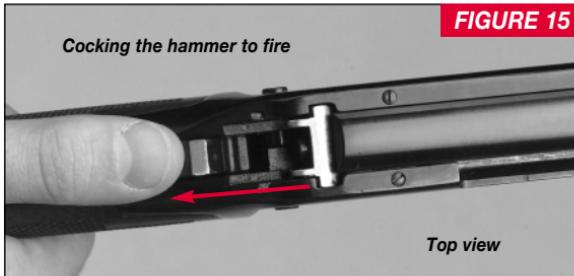

FIGURE 15
1. Firmly position your thumb on the hammer and draw the hammer back to the full-cock position (Figure 15).